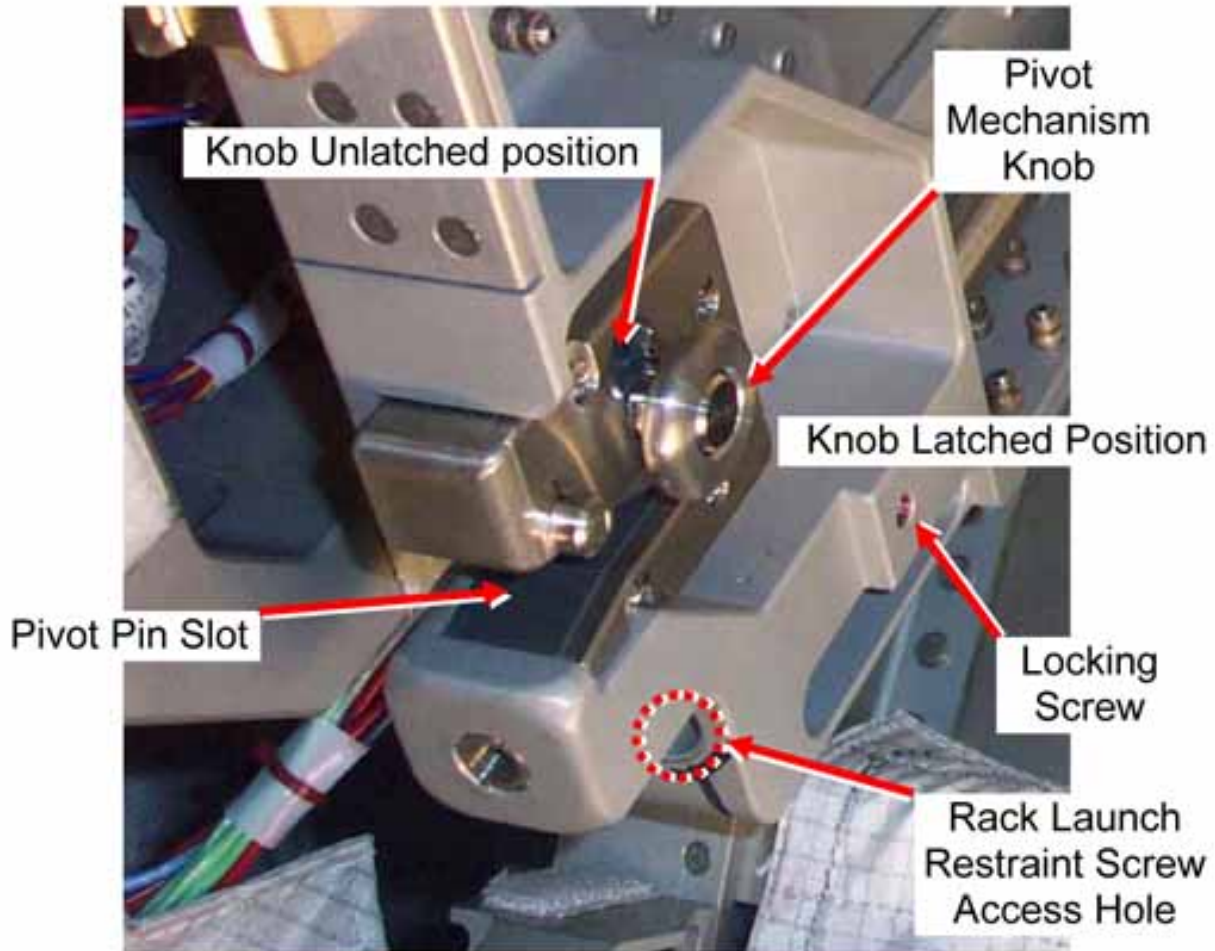

Figure 4. ISPR Rack Launch Restraint (Left), Typical.
3. For following steps refer to Figure 4.